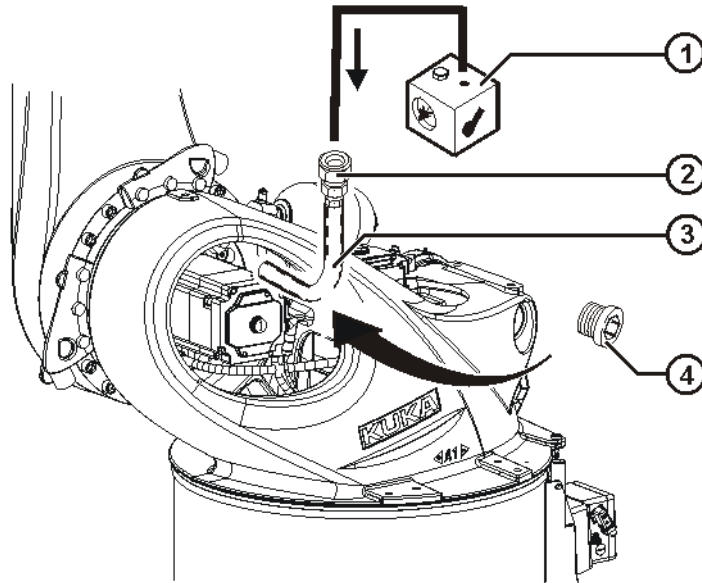

Fig. 9-23: Filling with oil on A2
1. Pull the oil drain hose upwards (>>> Fig. 9-23 ).